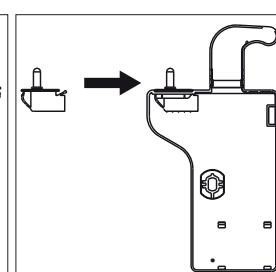

Fig. 4
- ▶ Mount the door contact in the hinge cover (27) from the accessories by clipping in the door contact (Fig. 4). Place the hinge cover safely to one side for use later.